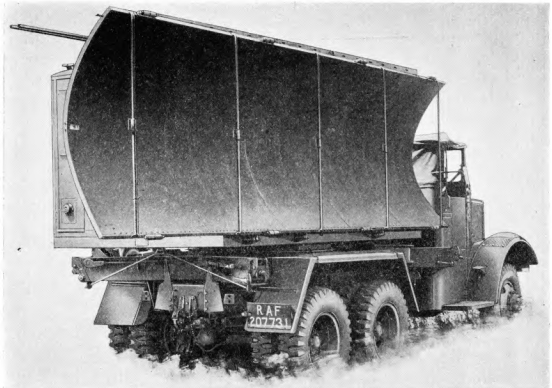
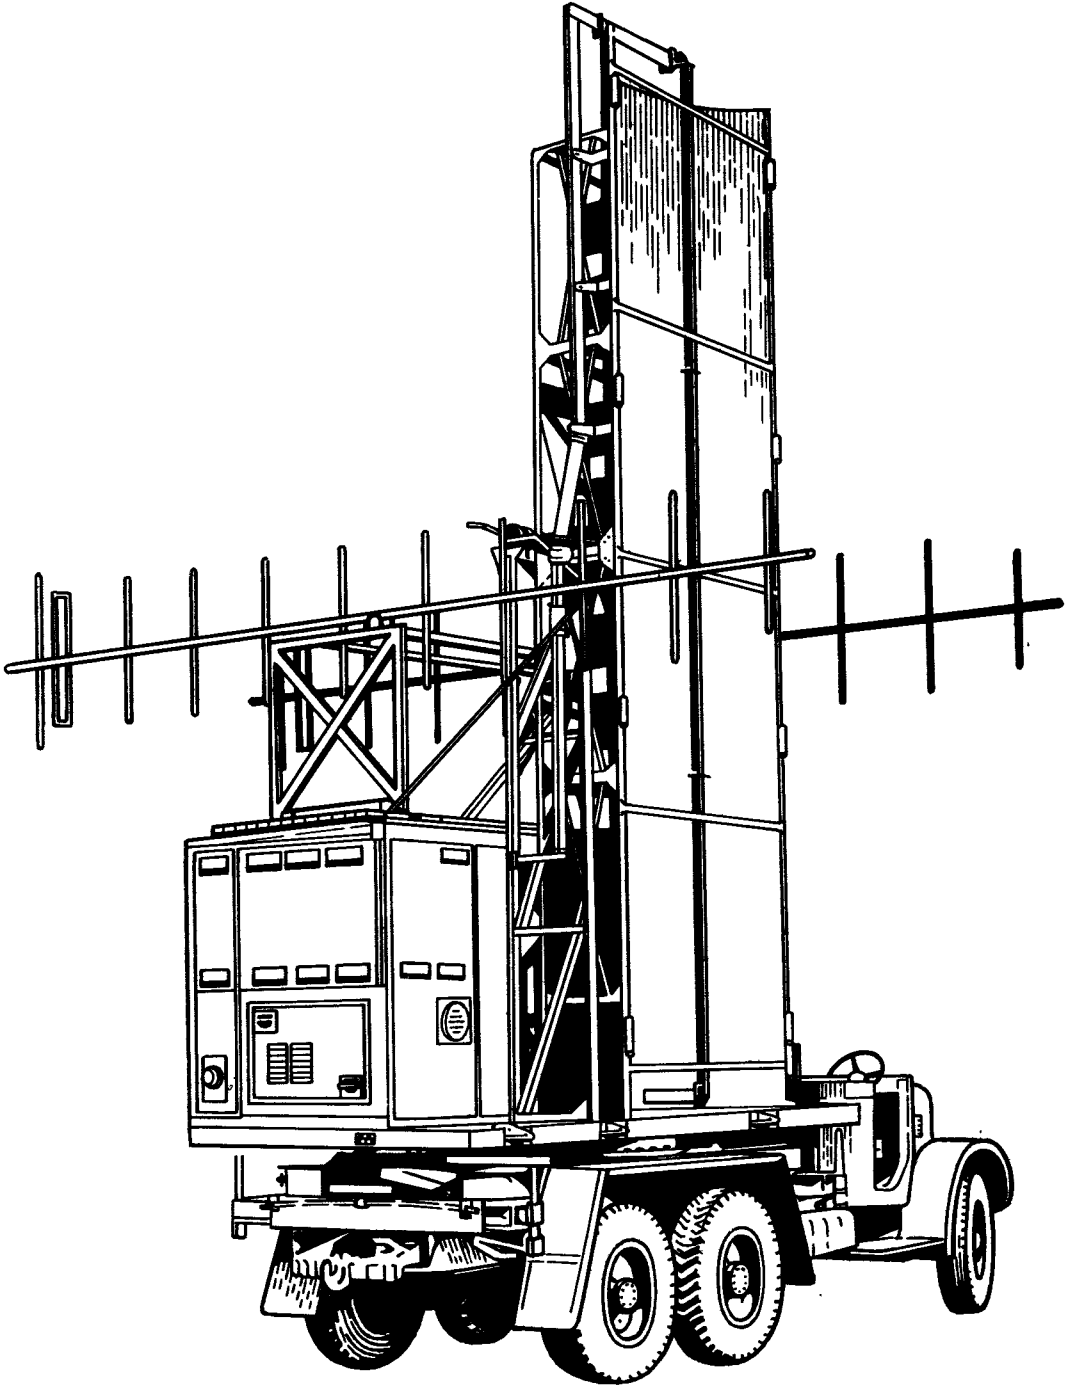
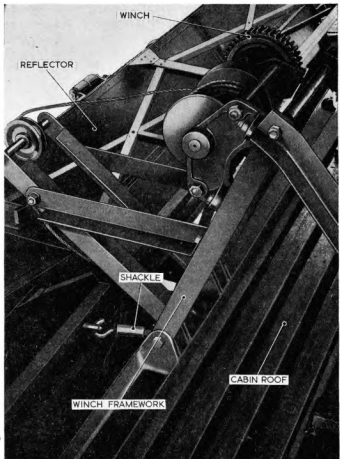
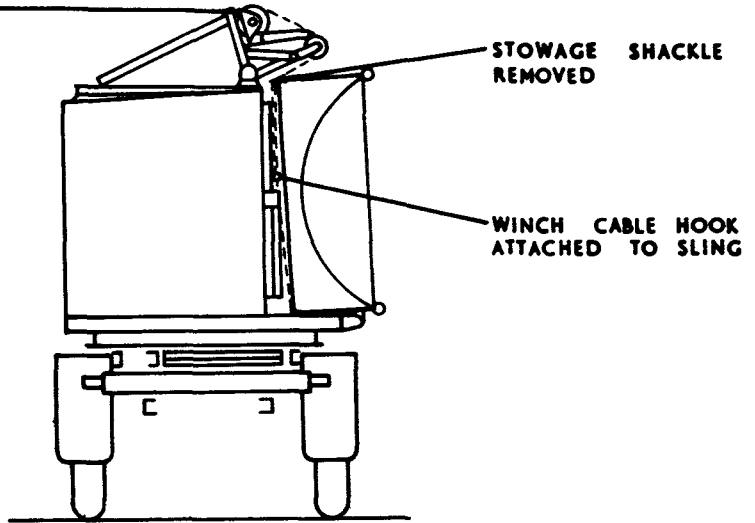

Fig. 24. R.V.461C in transit condition
Fig. 25. R.V.461C in operational condition
Fig. 26. R.V.461C : assembly of winch before lowering reflector
Fig. 27. R.V.461C : tackle in position for lowering paraboloid
31. Fig. 24 shows the vehicle in transit condition and fig. 25 shows it when operational with the aerial erected. The installation involves :—
- (1) Remove the ladder and the two wooden stays from their transit positions on top of the reflector.
- (2) Remove the shackle securing the reflector (fig. 26) ; the reflector will not fall.
- (3) Remove the IFF aerial rods and disconnect the IFF feeders from their dummy transit sockets on top of the container.
- (4) Lift up the two hinged sections of the IFF aerial supporting framework and fit one of the wooden stays between these sections at the back of the container remote from the reflector (fig. 25).
- (5) Unstrap the triangular section of the winch framework from the roof. Turn it over and bolt in position. The swinging legs of the frame fit into the
outer slots of the brackets (fig. 26) and the legs of the pulley section fit into the inner slots. Fig. 27 shows the erection complete to this stage.
Lowering the reflector to the ground (fig. 26 and 28)
- (1) Pass the winch cable over the pulley and attach the hook to the sling at the back of the reflector (fig. 26).
- (2) Keeping the winch cable fairly taut, push the reflector forward on its hinges until it is at the point of balance.
- (3) Take the weight of the reflector with the winch and lower the reflector on to